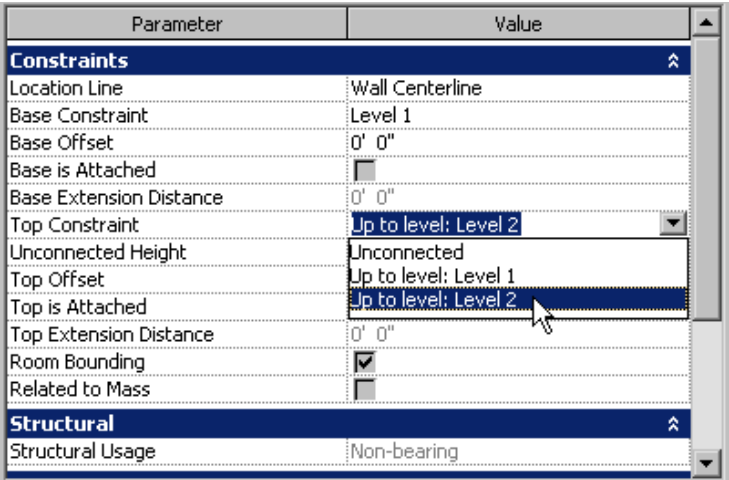

Figure 2-22 Setting the **Top Constraint** parameter using the **Element Properties** dialog box
- d. Modify **Top Constraint- Up to level: Level 2** and **Location Line- Wall Centerline** as the wall properties using the **Properties** button, refer to Figure 2-22.
2. In the **Element Properties** dialog box, the **Location Line** parameter has **Wall Centerline** as the default value. Click on the field under the **Value** column for the **Top Constraint** instance parameter. Select **Up to level: Level 2** from this drop-down list, as shown in Figure 2-22. Exit the dialog box by choosing the **OK** button to return to the interface screen.